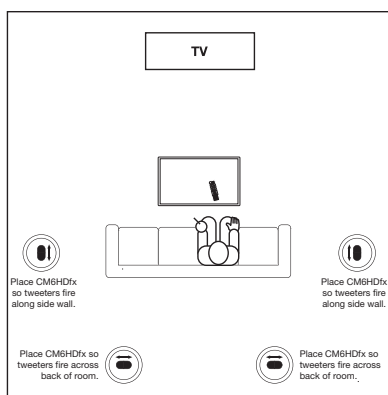

Figure 5. Two pairs of CM6HDfx loudspeakers reproduce Dolby EX surround sound in a home theater room using only DIFFUSE settings.
- *If your home theater system is capable of reproducing Dolby EX surround sound, consider using a second pair of CM6HDfx speakers (on the side walls) for an additional rear surround effect, as shown in **Figure 5**.*